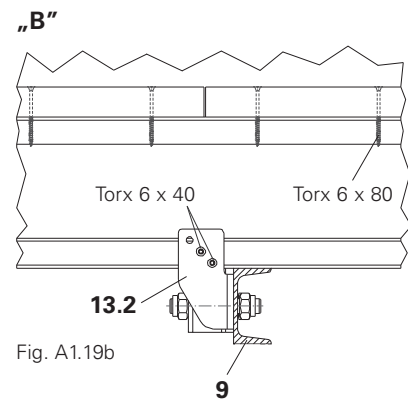

Fig. A1.19b
5. Fix planking on the girders using Torx 6 x 80 (2x per crossing). (Fig. A1.19b)